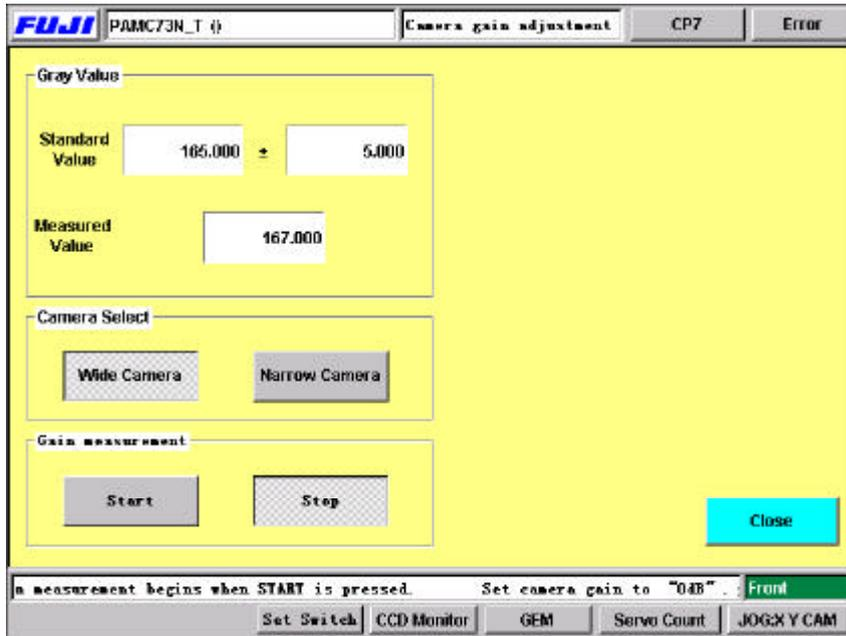

FIGURE 12
6. Select the camera to be adjusted and press the Start button. Adjust the camera gain trimmer so the measured value matches the standard value displayed. (+/- 5.00) When completed, press the stop button. (Figure 12) Carry out the same procedure for both cameras. (Wide and Narrow)